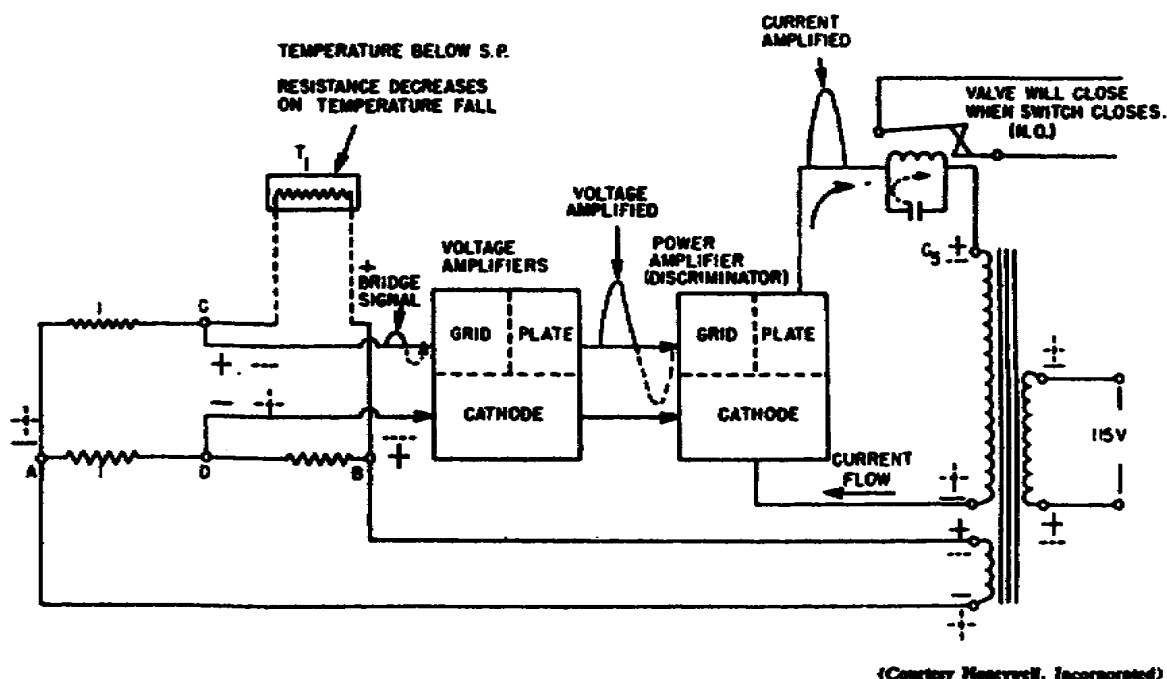

Figure 131. Two-position control.
7. The bridge supply voltage must come from the same phase as the discriminator supply, shown in figure 131. Supplying voltage from the same phase insures a bridge signal that is either in phase or 180° out of phase
8. The control grid of the discriminator is biased at cutoff; therefore, it will conduct only when the plate and the amplified bridge signal are both positive. With the temperature below set point, as in figure 131, point C will have the same polarity as point B (the resistance of T_1 decreased); and will cause bridge signal to